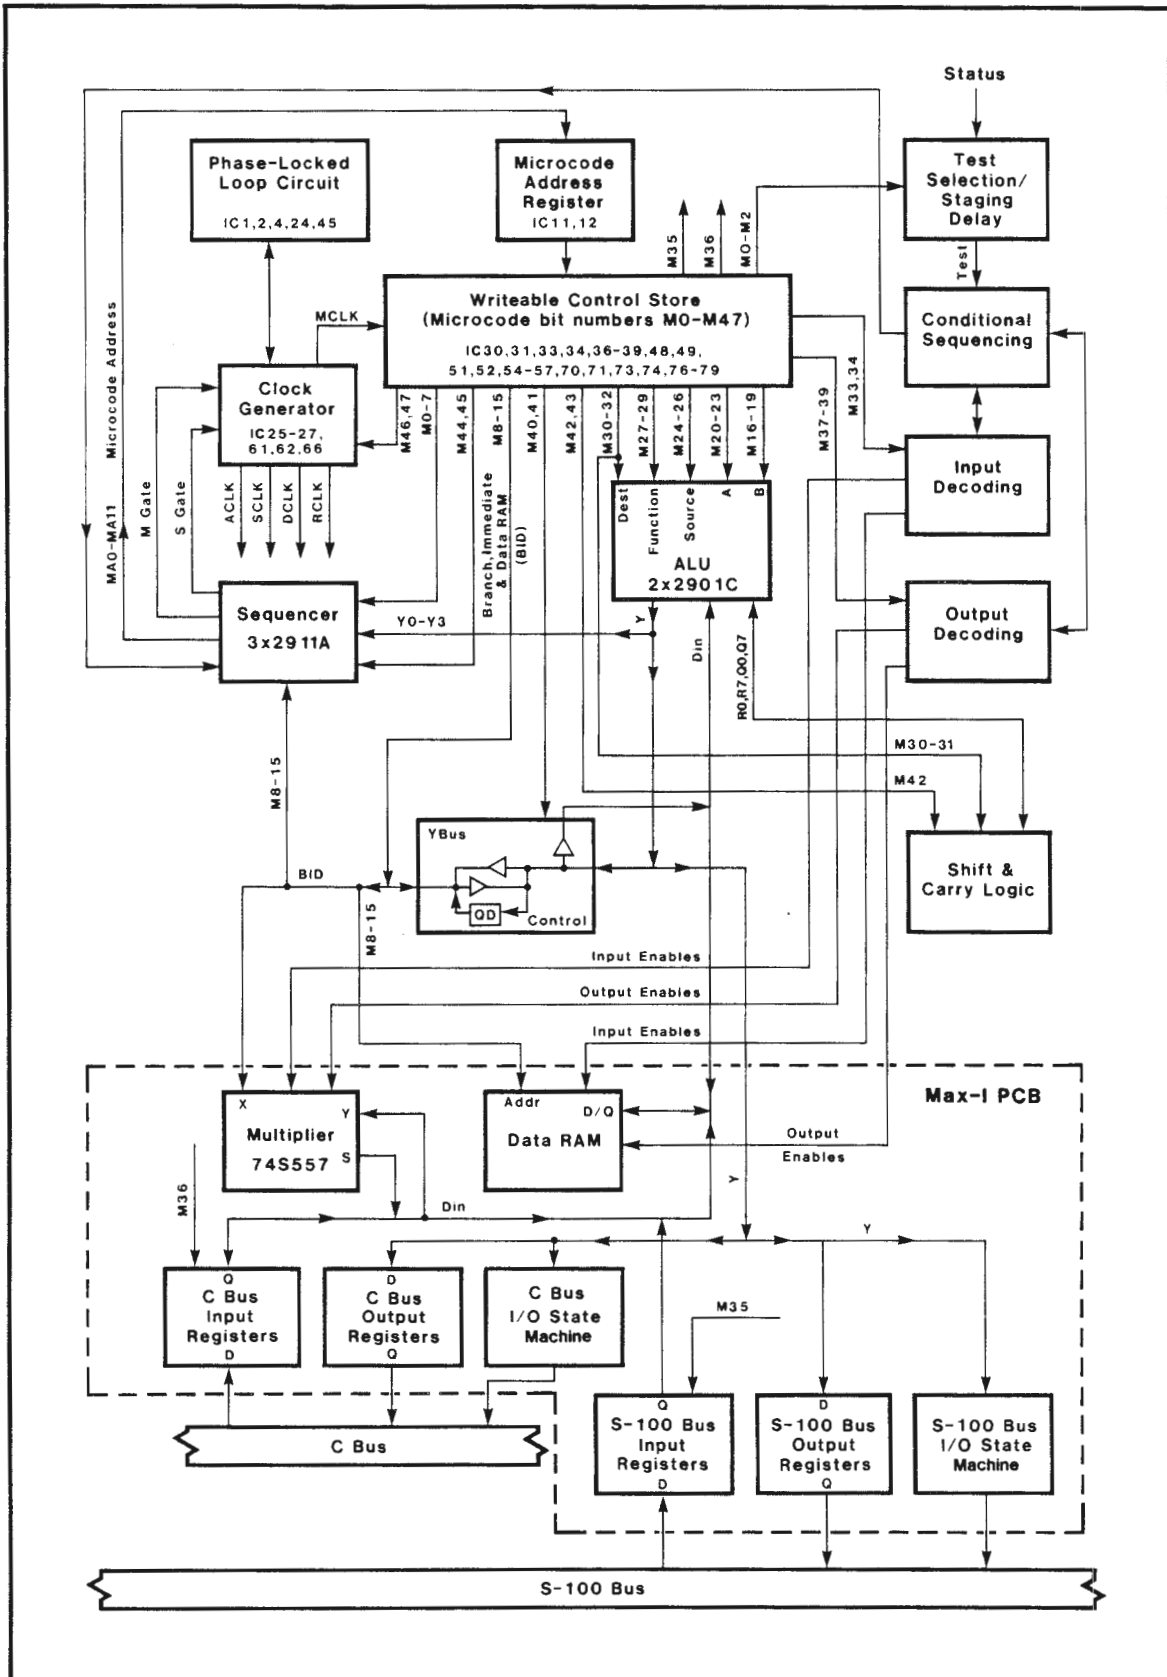

Figure 3-1: MAXIMIZER BLOCK DIAGRAM
The Maximizer circuits are placed on two circuit boards, interconnected by pin and socket connectors. A basic block diagram of the Maximizer is shown in figure 3-1. The processors and support circuits occupy the first board, called the Max-C. The companion board, called the Max-I, comprises the multiplier, data RAM, and bus interface registers. The architecture of the Maximizer and the functions of each section are discussed below. Where integrated circuit (IC) numbers are given, the heading of the section indicates on which board the circuit is located.